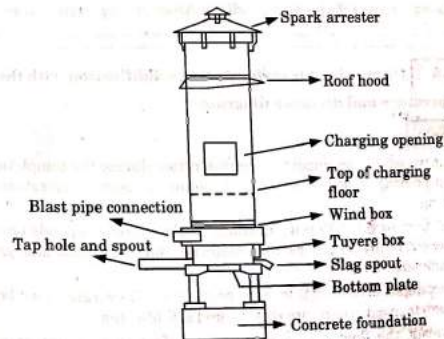

Fig. 1.4.1. A typical cupola furnace.
1. For melting the cast iron in foundry the cupola furnace is used. A diagrammatic sketch of this furnace is given in Fig. 1.4.1.